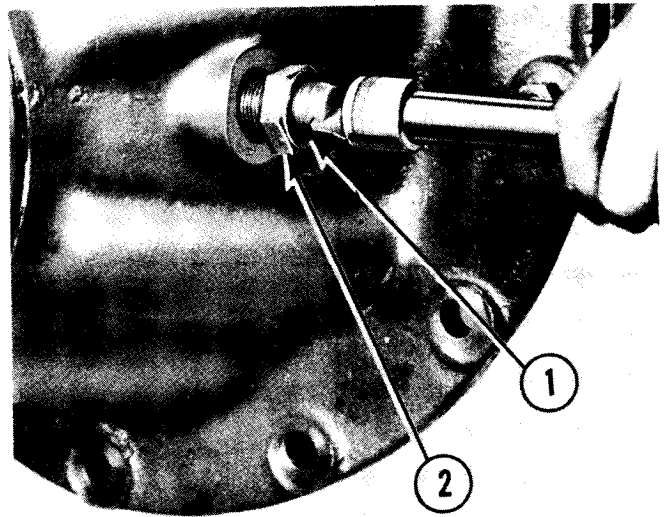

Figure 6-38
Loosen the jam nut (2, Fig. 6-38) and back off the thrust adjusting screw (1).